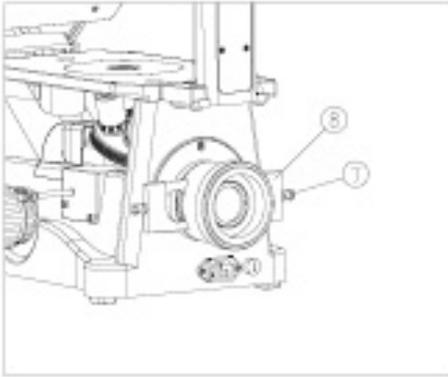

Figure 8
- (3) Turn off one of handles 7 from fluorescence preventing board 8 and insert the board 8 into connector, you will find sound to mean it at middle position (there are 3 positions). And tight the handle 7. (Fig. 8)